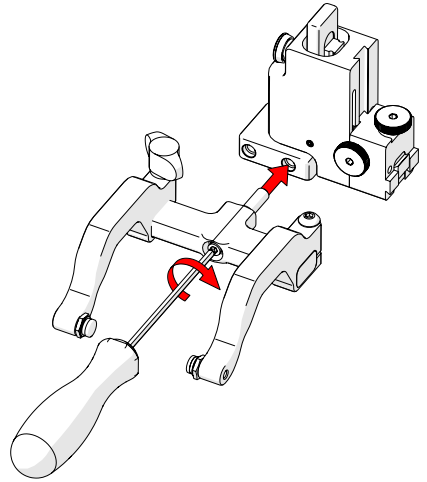

Fig. 49 - Screw into threaded hole
7. Screw the yoke to the probe holder (Fig. 49).